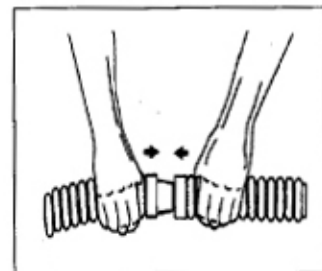

Figure 4
There are eleven (11) 32" connector hoses and one (1) 32" leader hose with a gray cuff. Connect the special cleaner hose sections together by pushing and twisting the tapered male connector end of each hose firmly into the female end of the adjacent hose sections (See Fig. 4). Depending on the size and shape of your pool, all hose sections might not be used. However, the leader hose **MUST ALWAYS** be used or your cleaner will not operate properly. It is not necessary to "Bottom Out" the connections, but they **MUST** be tight enough to prevent any air leaks. Wetting the hose ends will make it easier to connect the hose sections.